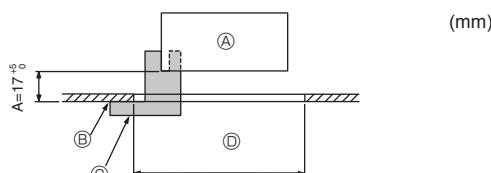

Fig. 7-2
① Grille	1	950 × 950 (mm)
② Installation gauge	1	(Divided into 4 parts)
③ Screw (4 x 16)	1	For PLP-6EAE, PLP-6EALE, PLP-6EALME
④ i-see Sensor corner panel	1	For PLP-6EAE, PLP-6EALE, PLP-6EALME
⑤ Wireless remote controller	1	For PLP-6EALM, PLP-6EALME
⑥ Remote controller holder	1	Included when equipped with the wireless remote controller.
⑦ LR6 AA batteries	2	Included when equipped with the wireless remote controller.
⑧ 3.5 x 16 tapping screws	2	Included when equipped with the wireless remote controller.
7.2. Preparing to attach the grille (Fig. 7-2)
- With the gauge ② supplied with this kit, adjust and check the positioning of the main unit relative to the ceiling surface. If the main unit is not properly positioned relative to the ceiling surface, it may allow air leaks or cause condensation to collect.